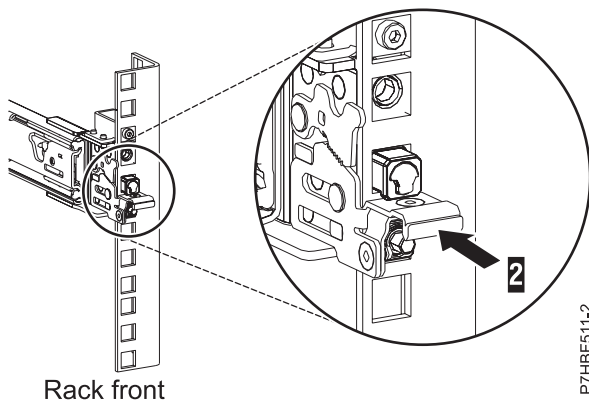

Figure 8. Rack front rail with latch seated
7. While pulling the slide rail forward, ensure that all three pins protrude through the rack holes, then push the front latch (2) all the way in, as shown in Figure 8.